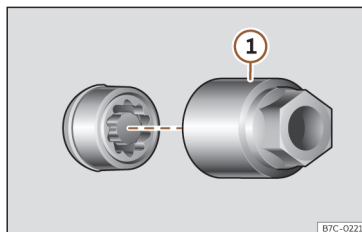

Fig. 242 Anti-theft wheel nut with cap and adapter.
- Insert the special adapter >>> **Fig. 242 ①** (vehicle tools >>> page 338) onto the anti-theft wheel nut and push it on as far as it will go.